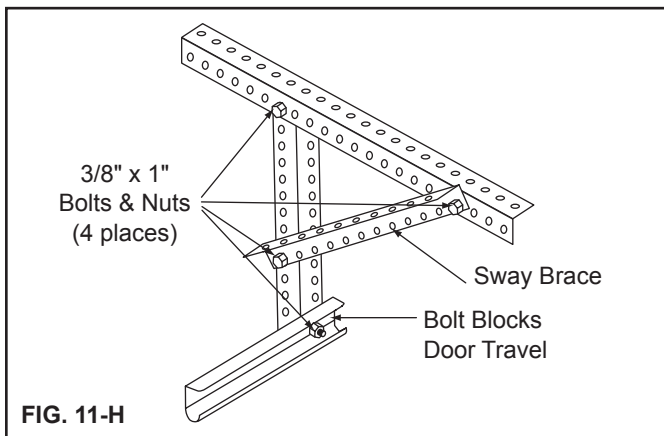

FIG. 11-H
Step 11-8, Continued: Adjust the position of the tracks if the squareness distances are not within 1/2" of each other. Horizontal track can be out of level up to 1" from front jamb to rear track hanger. (FIG. 11-I)